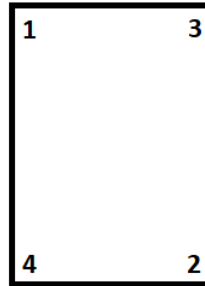

FIGURE 2-8 TIGHTEN SCREWS IN THE FOLLOWING ORDER AND PATTERN
8. Replace the lid of the enclosure. Each screw will need to be loosely tightened in the sequence shown in Figure 2-8 before being tightly screwed in the same sequence.
4. Replace the lid, loosely tighten the screws according to Figure 2-8, then securely tighten each screw in the same pattern.
- **Data Logger Lid:** The lid of the Data Logger will need to be removed and reinstalled from time to time for instrument wiring and periodic maintenance. It is important to ensure the O-ring is free of debris before reassembling the lid. Refer to Figure 2-8 for the proper sequence to follow when tightening the screws on the Data Logger's lid.